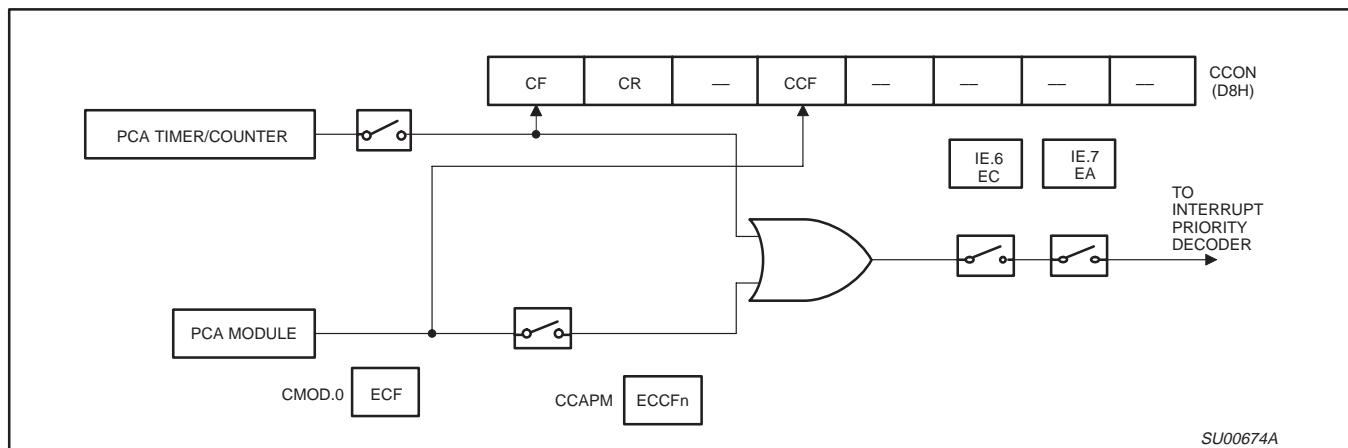

Figure 7. PCA Interrupt System
The CCON SFR contains the run control bit for the PCA and the flags for the PCA timer (CF) and module (refer to Figure 9). To run the PCA the CR bit (CCON.6) must be set by software. The PCA is shut off by clearing this bit. The CF bit (CCON.7) is set when the PCA counter overflows and an interrupt will be generated if the ECF bit in the CMOD register is set. The CF bit can only be cleared by software. Bit 4 of the CCON register is the flag for the module and is set by hardware when either a match or a capture occurs. This flag can only be cleared by software. The PCA interrupt system shown in Figure 7.